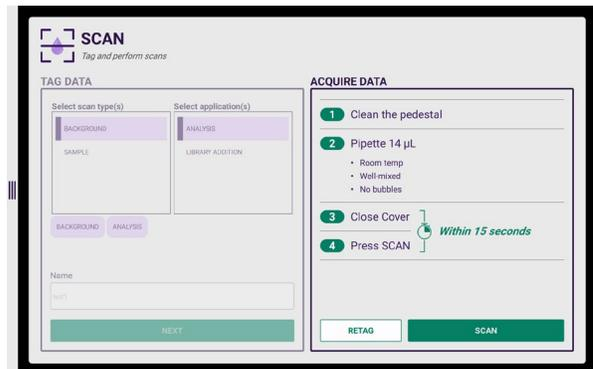

Figure 10. For optimal results, follow steps 1-4 to acquire scan data.
4. **Carefully follow Steps 1-4 on-screen (Fig. 10).** Clean the pedestal and pipette 14 µL sample (room temp, well-mixed, no bubbles) onto the pedestal. Perform a visual check to ensure the droplet is well-positioned on the pedestal and that no bubbles are present in the sample is necessary before scanning. If bubbles or spilling are noticed, clean and reload the droplet.